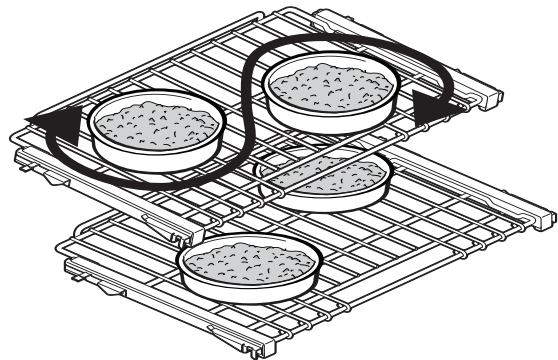
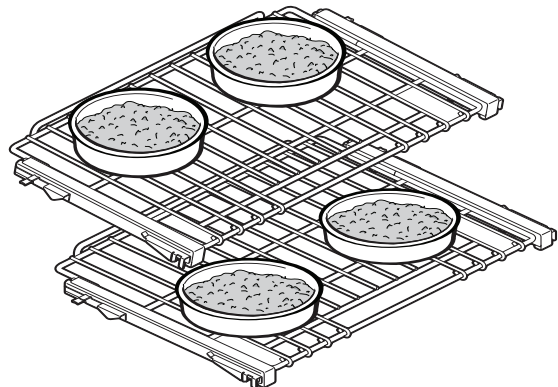

Figure 27: 36" Pan Placement
Figure 28: 30" & 48" Pan Placement
- Allow 1½" (38 mm) above and below each pan. For 36" model ovens, stagger bakeware so that one is not directly above another, as shown in *Figure 27*. For 30" and 48" model ovens, bakeware should be positioned as shown in *Figure 28*.